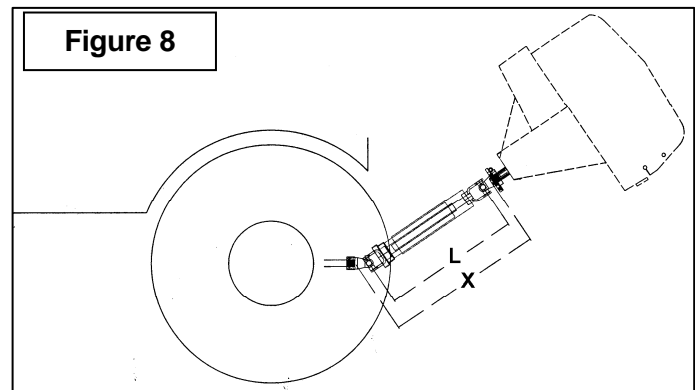

Figure 8
1. To determine the "L" length for your tractor model first find the "X" factor by measuring the horizontal distance between the end of the tractor's drive shaft and the end of the snowblower's driven shaft when the snowblower is in transport position as shown on figure 8.